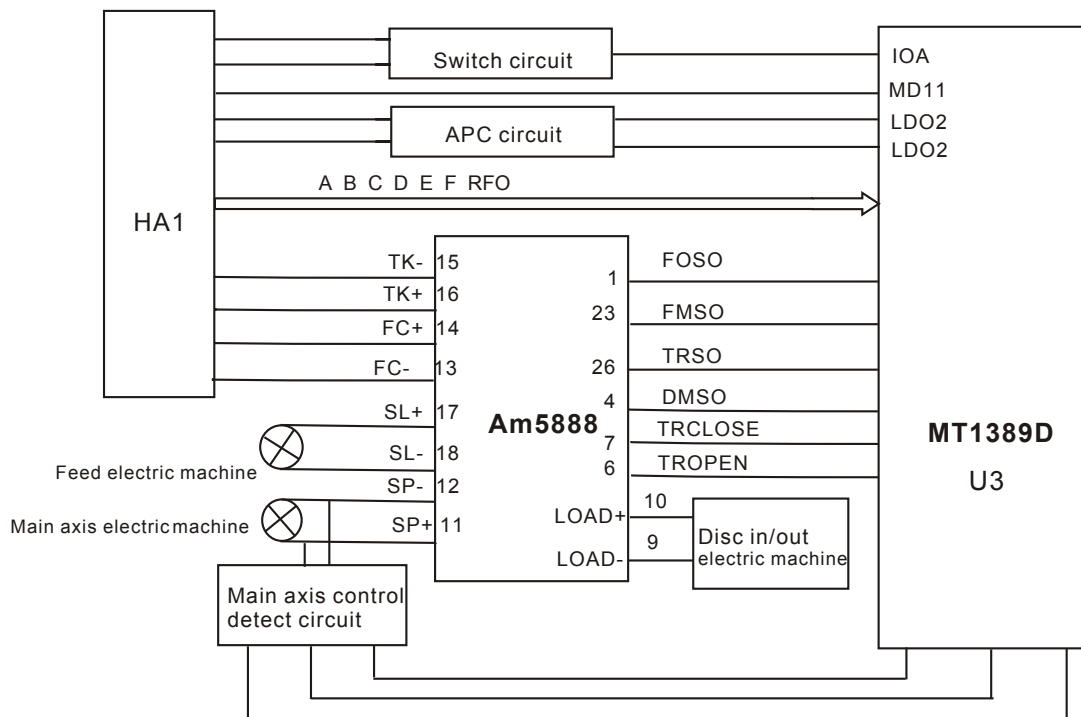

Figure 3.2.2.1 Servo circuit block diagram
1. Servo system of this player adopts SANYO loader + MTK decode solution (MT1389D+FLASH (16M) + SDRAM (64M)), and its servo circuit is mainly composed of front end signal processing, digital servo processing, digital signal processing IC MT1389D and drive circuit AM588S , in which MT1389D is also the main composed part of decode circuit. Servo circuit block diagram is shown as in the following figure 3.2.2.1: